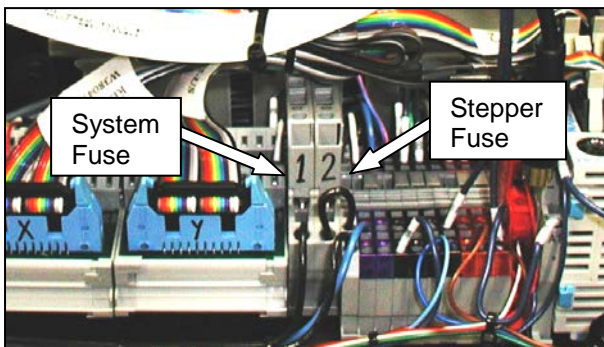

Figure 3-15. Fuse Locations
3. Locate the two Fuses. (Figure 3-15)